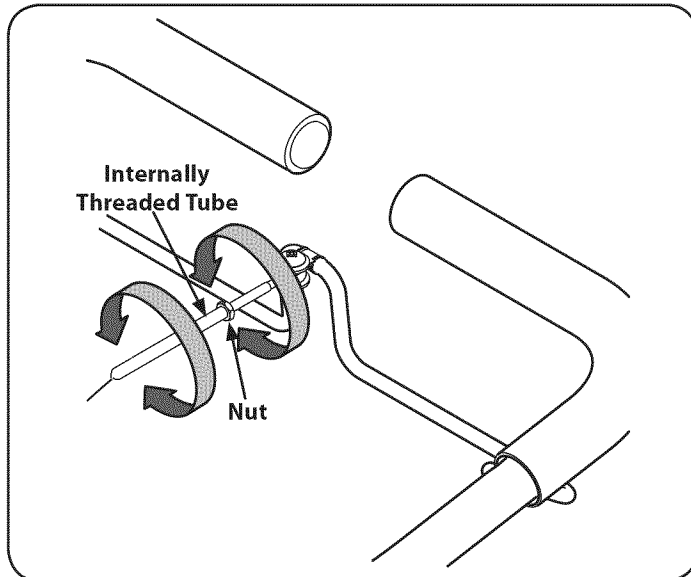

Figure 9
4. If the belt turns without the bail engaged, adjust it by un-threading the internally threaded tube at the end of the cable a few turns clockwise — when standing in the operator's position — and then retighten the nut against the tube. See Figure 9.